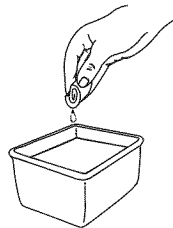

Fig. 24
- Wash the filter in detergent and water (Fig. 24). Rinse the filter thoroughly and allow it to dry.